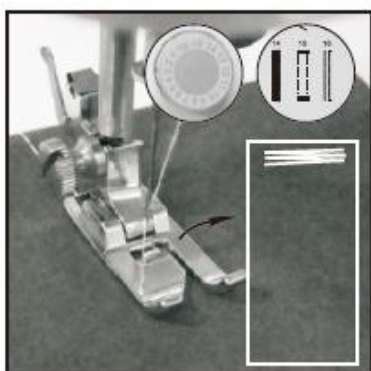

Fig.15
- 2) Turn on the switch and sew 5-6 stitches in low speed, then turn off the switch (Fig.15).